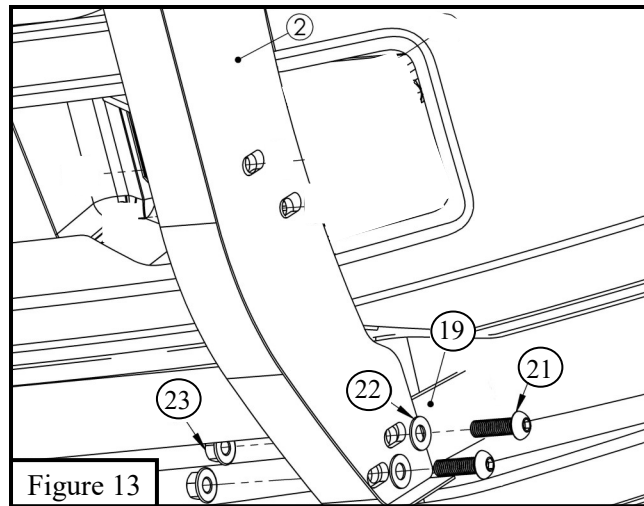

Figure 13
8. Locate (1) Bumper Bracket (Item 4/5) and loosely secure onto vehicle frame and Lower Mount Bracket using (2) M10 hex head cap screws, (2) M10 split lock washers, (2) M10 flat washers, (2) M12 flat washers, (2) M12 lock washers, and (2) M12 hex nuts. See Figures 13 and 14.